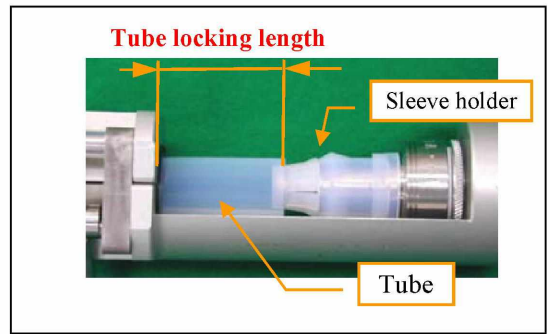

Fig. 52 - Tube locking length
- Lock the tube with the clamp at the tube locking length. (see Fig. 52 and Table 20)